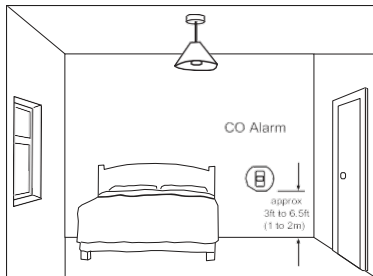

Figure 3
3.32 If locating the CO Alarm in a bedroom or in rooms remote from a fuel burning appliance (see figure 3)